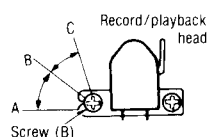

Fig. 3
2. Playback the 8kHz signal from the test tape (QZZCFM). Adjust screw (B) in fig. 3 for maximum output L-CH and R-CH levels. When the output levels of L-CH and R-CH are not at maximum at the same point adjust as follows.
3. Turn screw (B) shown in fig. 3 to find angles A and C (points where peak output levels for left and right channels are obtained). Then, locate angle B between angles A and C, i.e., point where L-CH and R-CH outputs are balanced. (Refer to figs. 3 and 4.)
5. Playback the 8kHz signal from the test tape (QZZCFM). Adjust screw (B) shown in fig. 3 so that pointers of the two EVMs swing to maximum and a lissajous waveform as illustrated in fig. 6 is obtained on the oscilloscope.